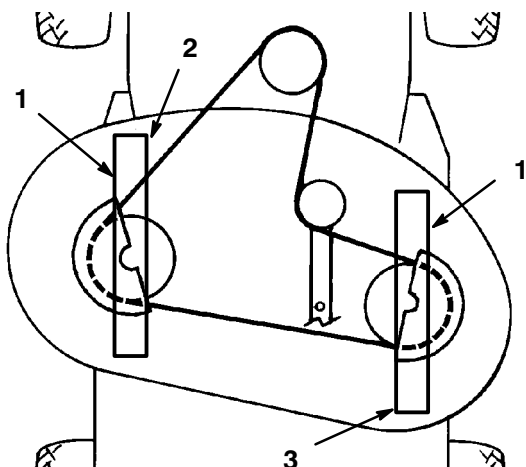

Figure 12
4. Carefully rotate blades so they are facing front and rear (Fig. 12).
5. Measure between the tip of the front blade (Fig. 12). and the tip of the rear blade to the flat surface. If the front blade tip is not 0-1/8" (0-3.2 mm) lower than the rear blade tip adjust front adjustment link.